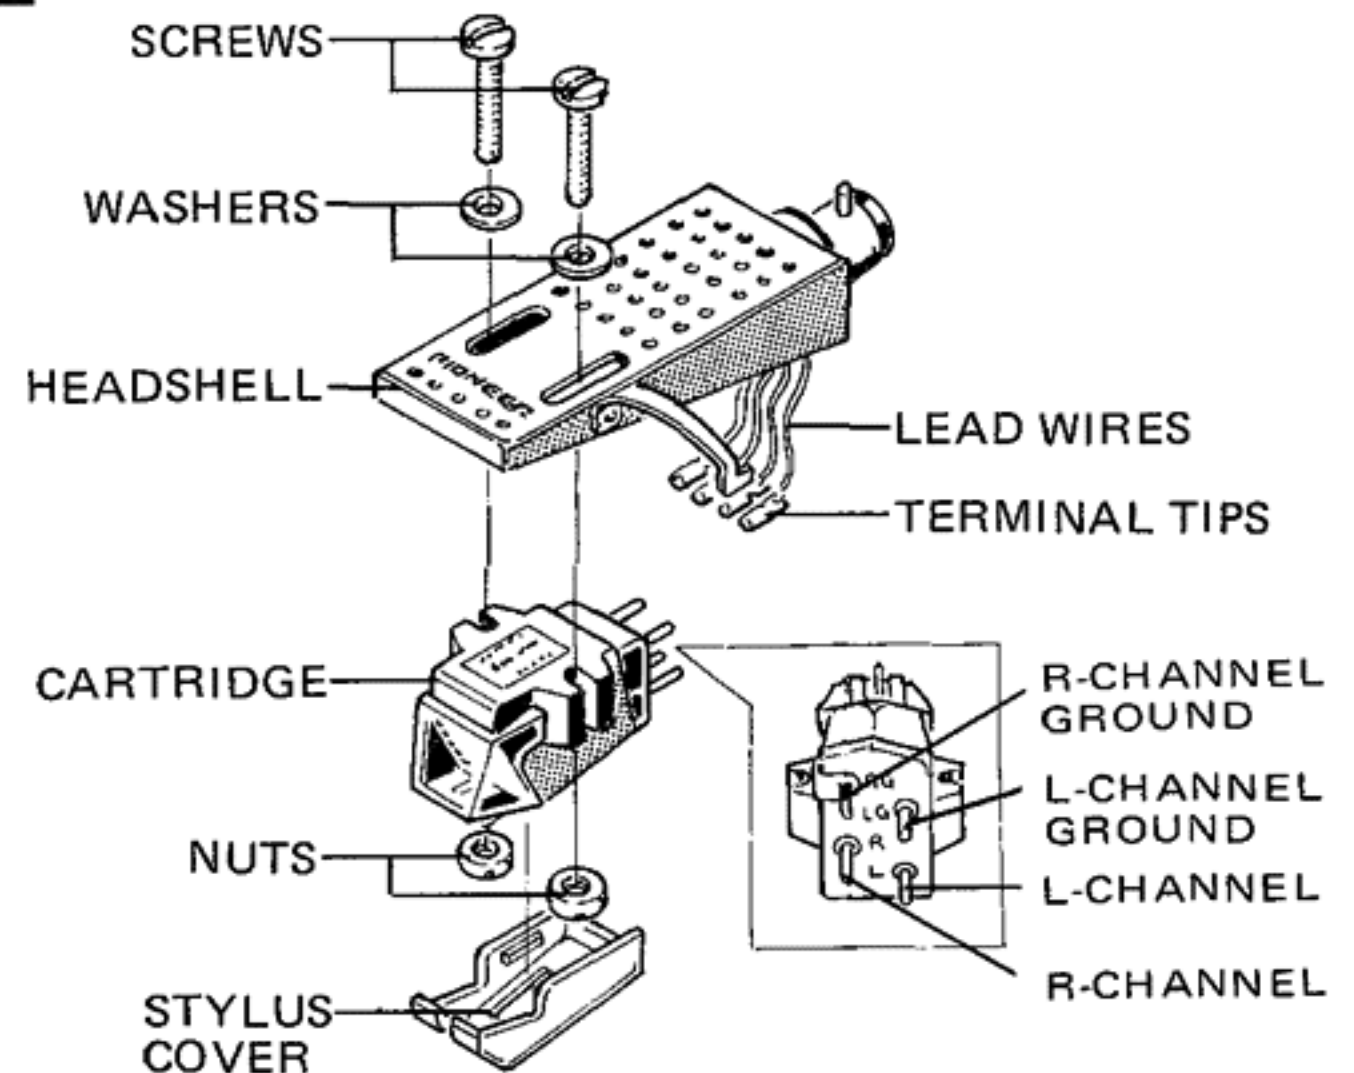

Fig. 5
2. Being careful not to confuse the polarities attach the lead wire to the cartridge (Fig. 5). The polarities are as follows;